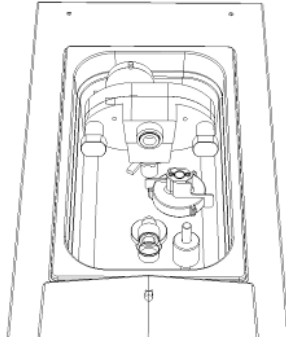

Fig. 63
- Once all the components of the freezing cylinder have been refitted, place all components of the top tank in the same position they occupied before the sanitisation (Fig. 63).